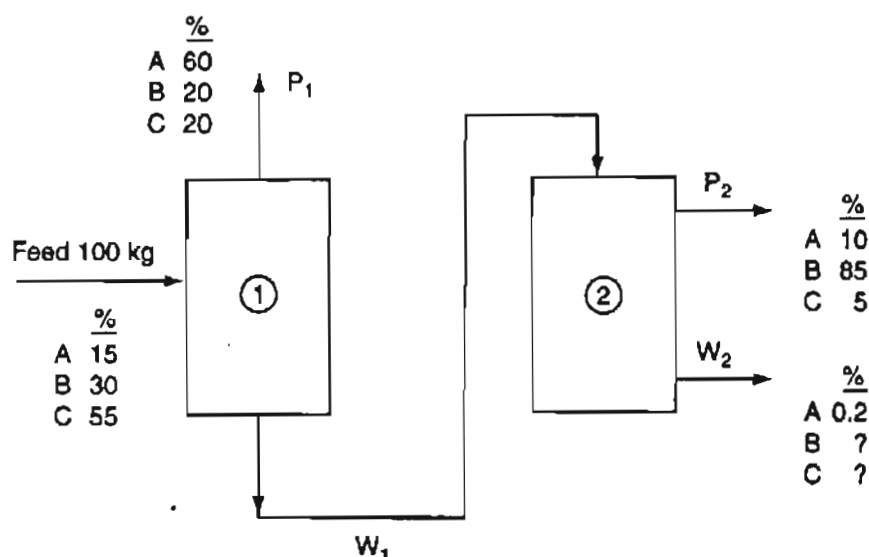

Figure P11.6
- ***11.6** In Figure P11.6 you will see two successive liquid separations columns operating in tandem in the steady state (and with no reaction taking place). The compositions of the feed and products are as shown in the figure. The amount of W_2 is 20% of the feed. Focus only on the material balances. Write down the names of the material balances for each column treated as separate units (one set for each column), along with the balances themselves placed next to the names of the balances. Also, place an asterisk in front of the names of the balances that will comprise a set of independent equations for each column. Write down in symbols the unknowns for each column. Calculate the degrees of freedom for each column separately.